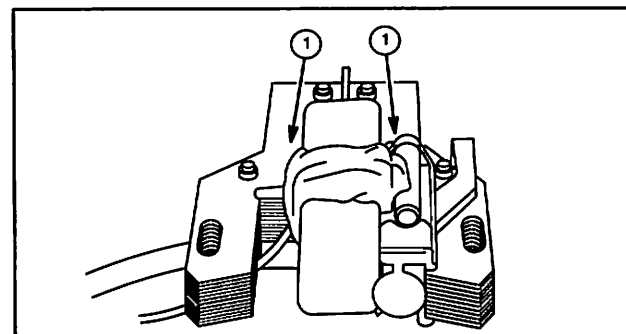

Fig. 16
5. Seal wires to ignition armature (1) with Permatex® No. 2 or similar sealer to prevent wires from vibrating and breaking, Fig. 16.